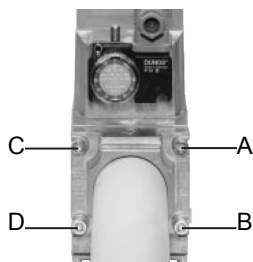
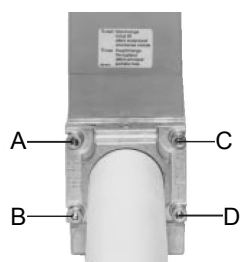

Fig. 10
Fig. 11
1. Loosen screws A and B **do not** unscrew (Fig. 10 - Fig. 11).
2. unscrew screws C and D (Fig. 10 - Fig. 11).
3. Remove MultiBloc between the threaded flanges (Fig. 11).
**ATTENTION:** To set the outlet pressure of the VD-R regulator, act on the adjustment ring nut (Fig. 10)
The position of the indicator in the dial indicates the value of the outlet pressure calculated as a percentage of the full scale of the PS sensor (Fig. 11)